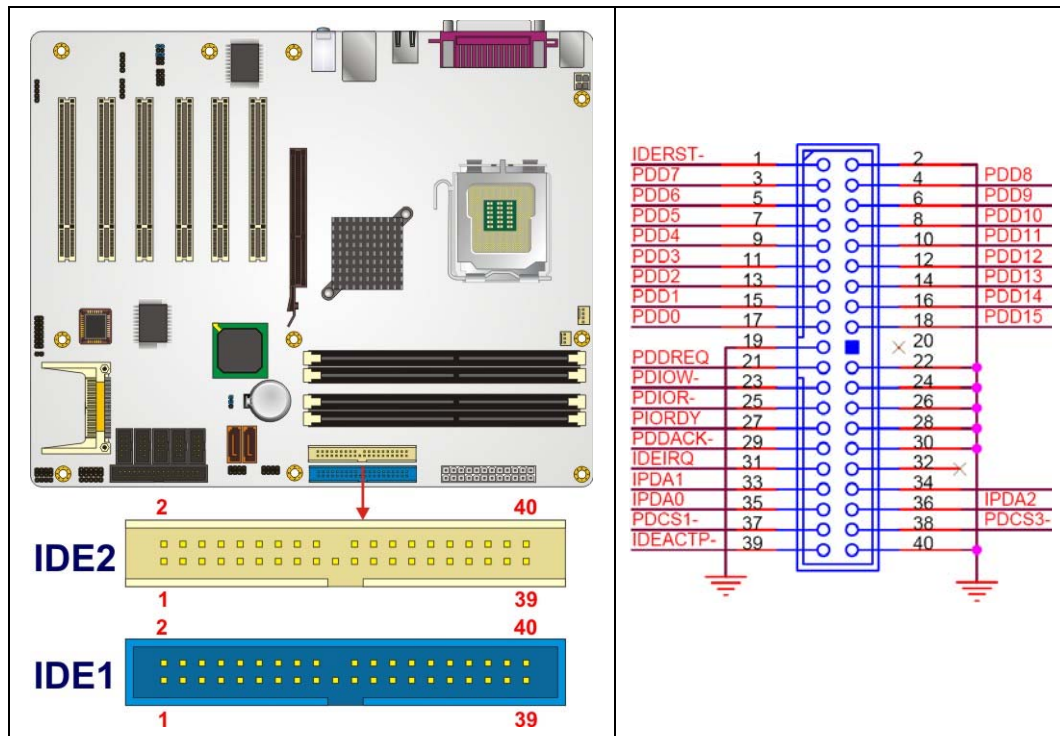

Figure 4-14: IDE Device Connector Locations
- CN Location:** See **Figure 4-14**